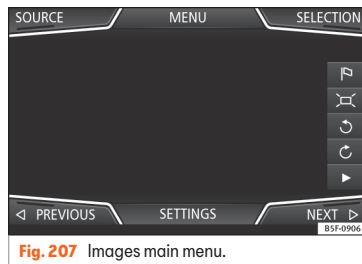

Fig. 207 Images main menu.
- Press the **SOURCE** »» **Fig. 207** function button and select the data storage device where the images are stored.